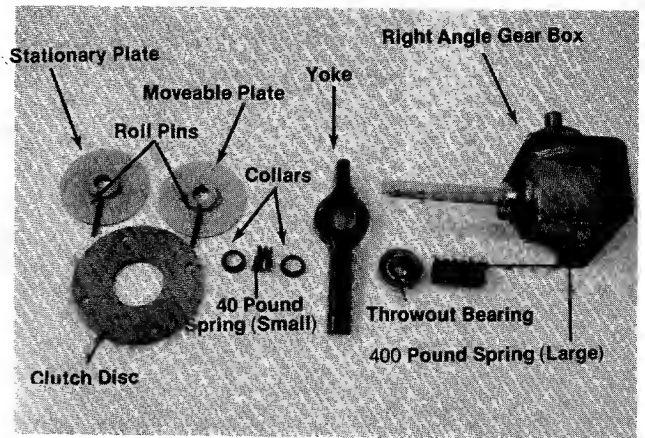
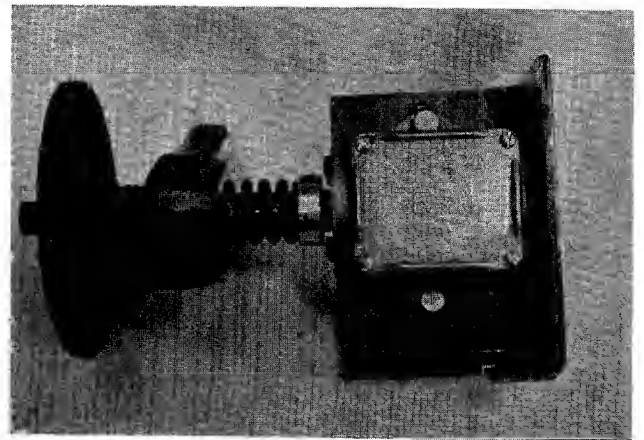

Figure 36
Figure 37
The clutch can be replaced as an assembly (See figure 37.) or it may be disassembled and its components can be replaced. (See figure 36.)
1. Set the clutch assembly in a suitable arbor press with a minimum 12 inch height. (See figure 36.)